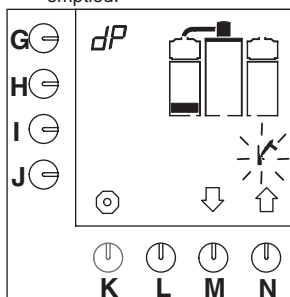

Fig. 20 First level descaling programme coffee-making system
- The first level block appears on the display and the hammer symbol flashes (fig.20).